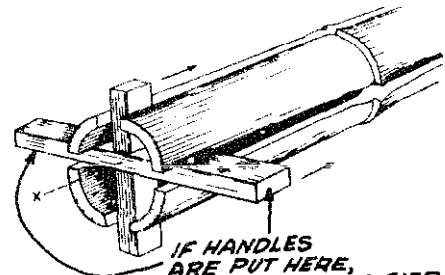

FIGURE 3
- o Split the culm the rest of the way by driving a hardwood cross along the cuts (Figure 3).